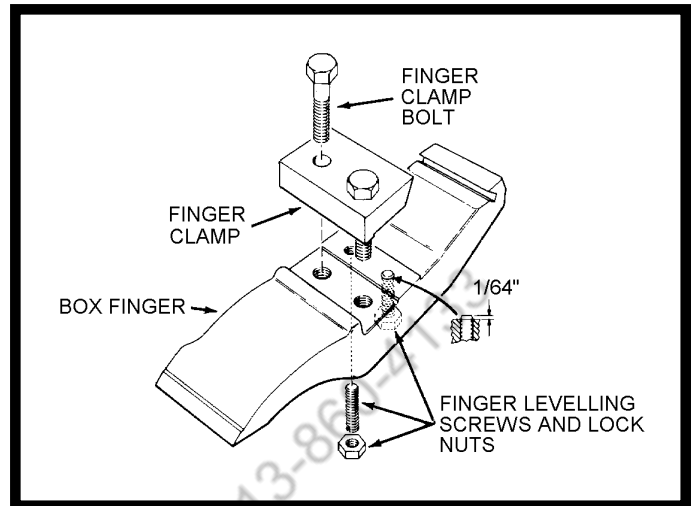

Figure 16. Box and Pan Finger
4. Loosen Finger Clamp Bolts (figure 16) and hook finger into dove tail of Upper Beam. Position lip of Clamp over Upper Beam Jaw and tighten Finger Clamp Bolts securely.
1. Choose a 4" to 6" width finger and set the Finger Leveling screws (figure 16) until end of each screw protrudes 1/64" above mounting surface of the finger. Lock the screws in this position by securely tightening Finger Leveling Lock Nuts.